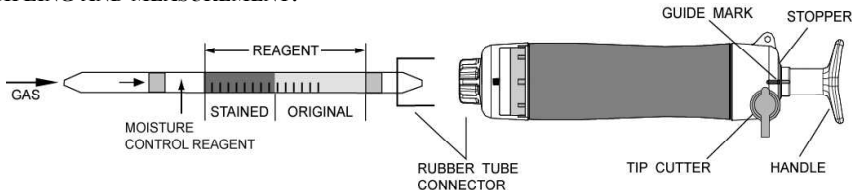

Fig.1
- ① Break both ends of the detector tube.
- ② Insert the detector tube into the aspirating pump securely as shown in Fig.1. (Arrow mark shall point to the pump.)
- ③ Align the guide marks on the shaft and stopper of the aspirating pump.
- ④ Pull the pump handle at a full stroke until it locks and wait for 1 minute or until the completion of sampling is confirmed with the flow indicator of the pump (See descriptions about the flow indicator in the instruction manual of the pump).
- ⑤ On completion of sampling, read the scale at the maximum point of the stained layer.
- ⑥ When the concentrations are below the scale range, 2 pump strokes can be used to determine these lower concentrations.
- ⑦ When the concentrations are over the scale range, a 1/2 pump stroke can be used to determine these higher concentrations.